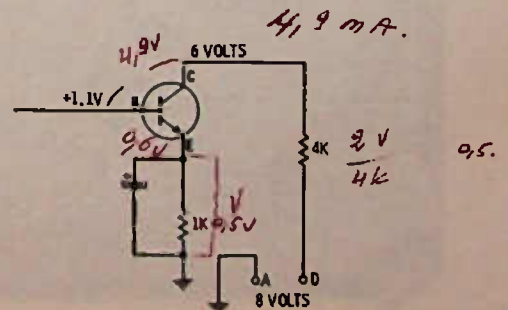

Fig. 8-16. Circuit for Questions 4 and 5.
- In Fig. 8-16, using Ohm's law and deduction, which answer is correct?
- In Fig. 8-16, the emitter voltage in respect to ground is